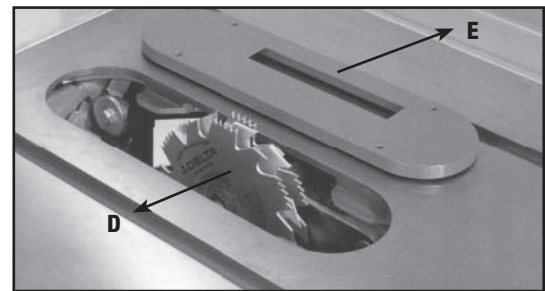

Fig. 47
2. Attach the dado head set (D) Fig. 47, to the saw arbor.
**THE DADO HEAD SET TABLE INSERT (E) FIG. 47, MUST BE USED IN PLACE OF THE STANDARD TABLE INSERT. THIS IS AVAILABLE AS A SERVICE PART THROUGH A BLACK & DECKER SERVICE CENTER.**